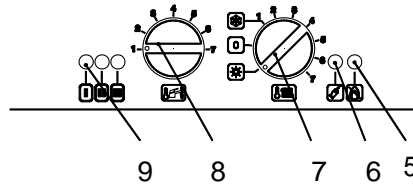

Figure 5.4
- 4 If the boiler is to be used for d.h.w. only position the function selector 7 as in figure 5.4. The appliance operation light 9 will flash every 2 seconds (operating boiler).